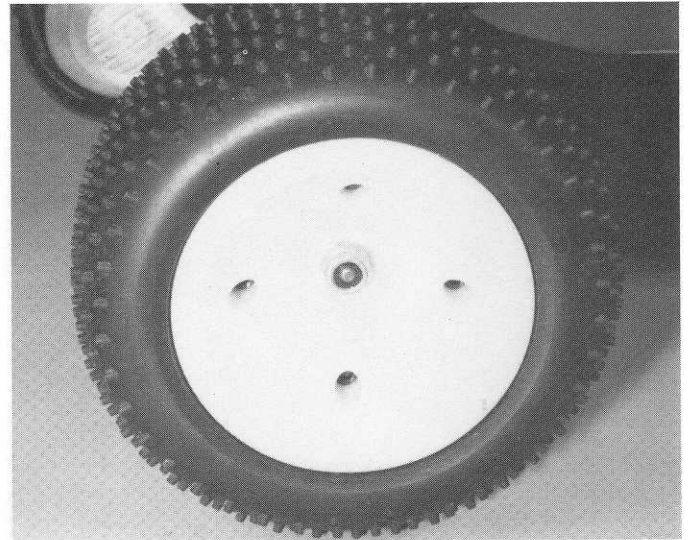

**Fig. 152**
**Figs. 152 & 153** When we designed the RC10T truck, we looked at the ROAR rules and there was no minimum dimension listed for the front wheels and tires. Because what we were designing was similar to Stadium Trucks, we wondered why nobody was using narrow front tires, as on Stadium Trucks.